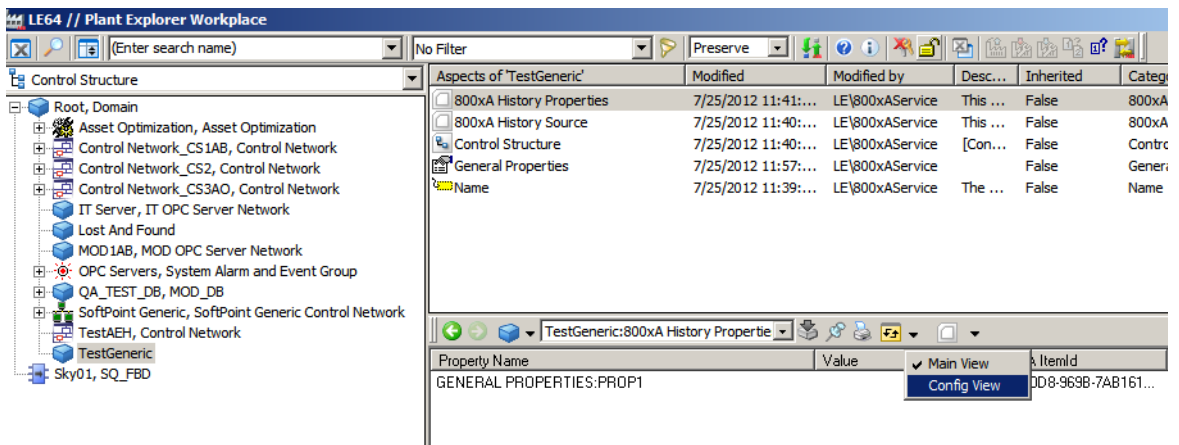

Figure 234. Config View selection
3. Select **Config View** in 800xA History Properties aspect as shown in Figure 234.